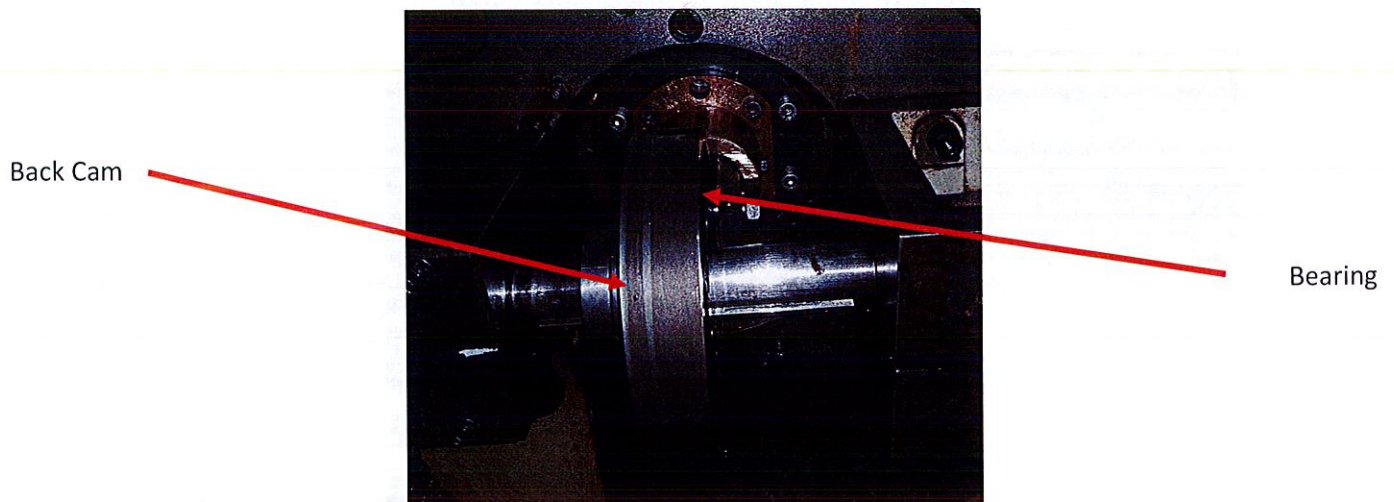

Figure 4: Back Cam Setting
- Put the back cam on using the correct key way slot that has been clearly marked. The cam is placed on the shaft so that the bearing goes into it from the right-hand side as shown in figure 4.